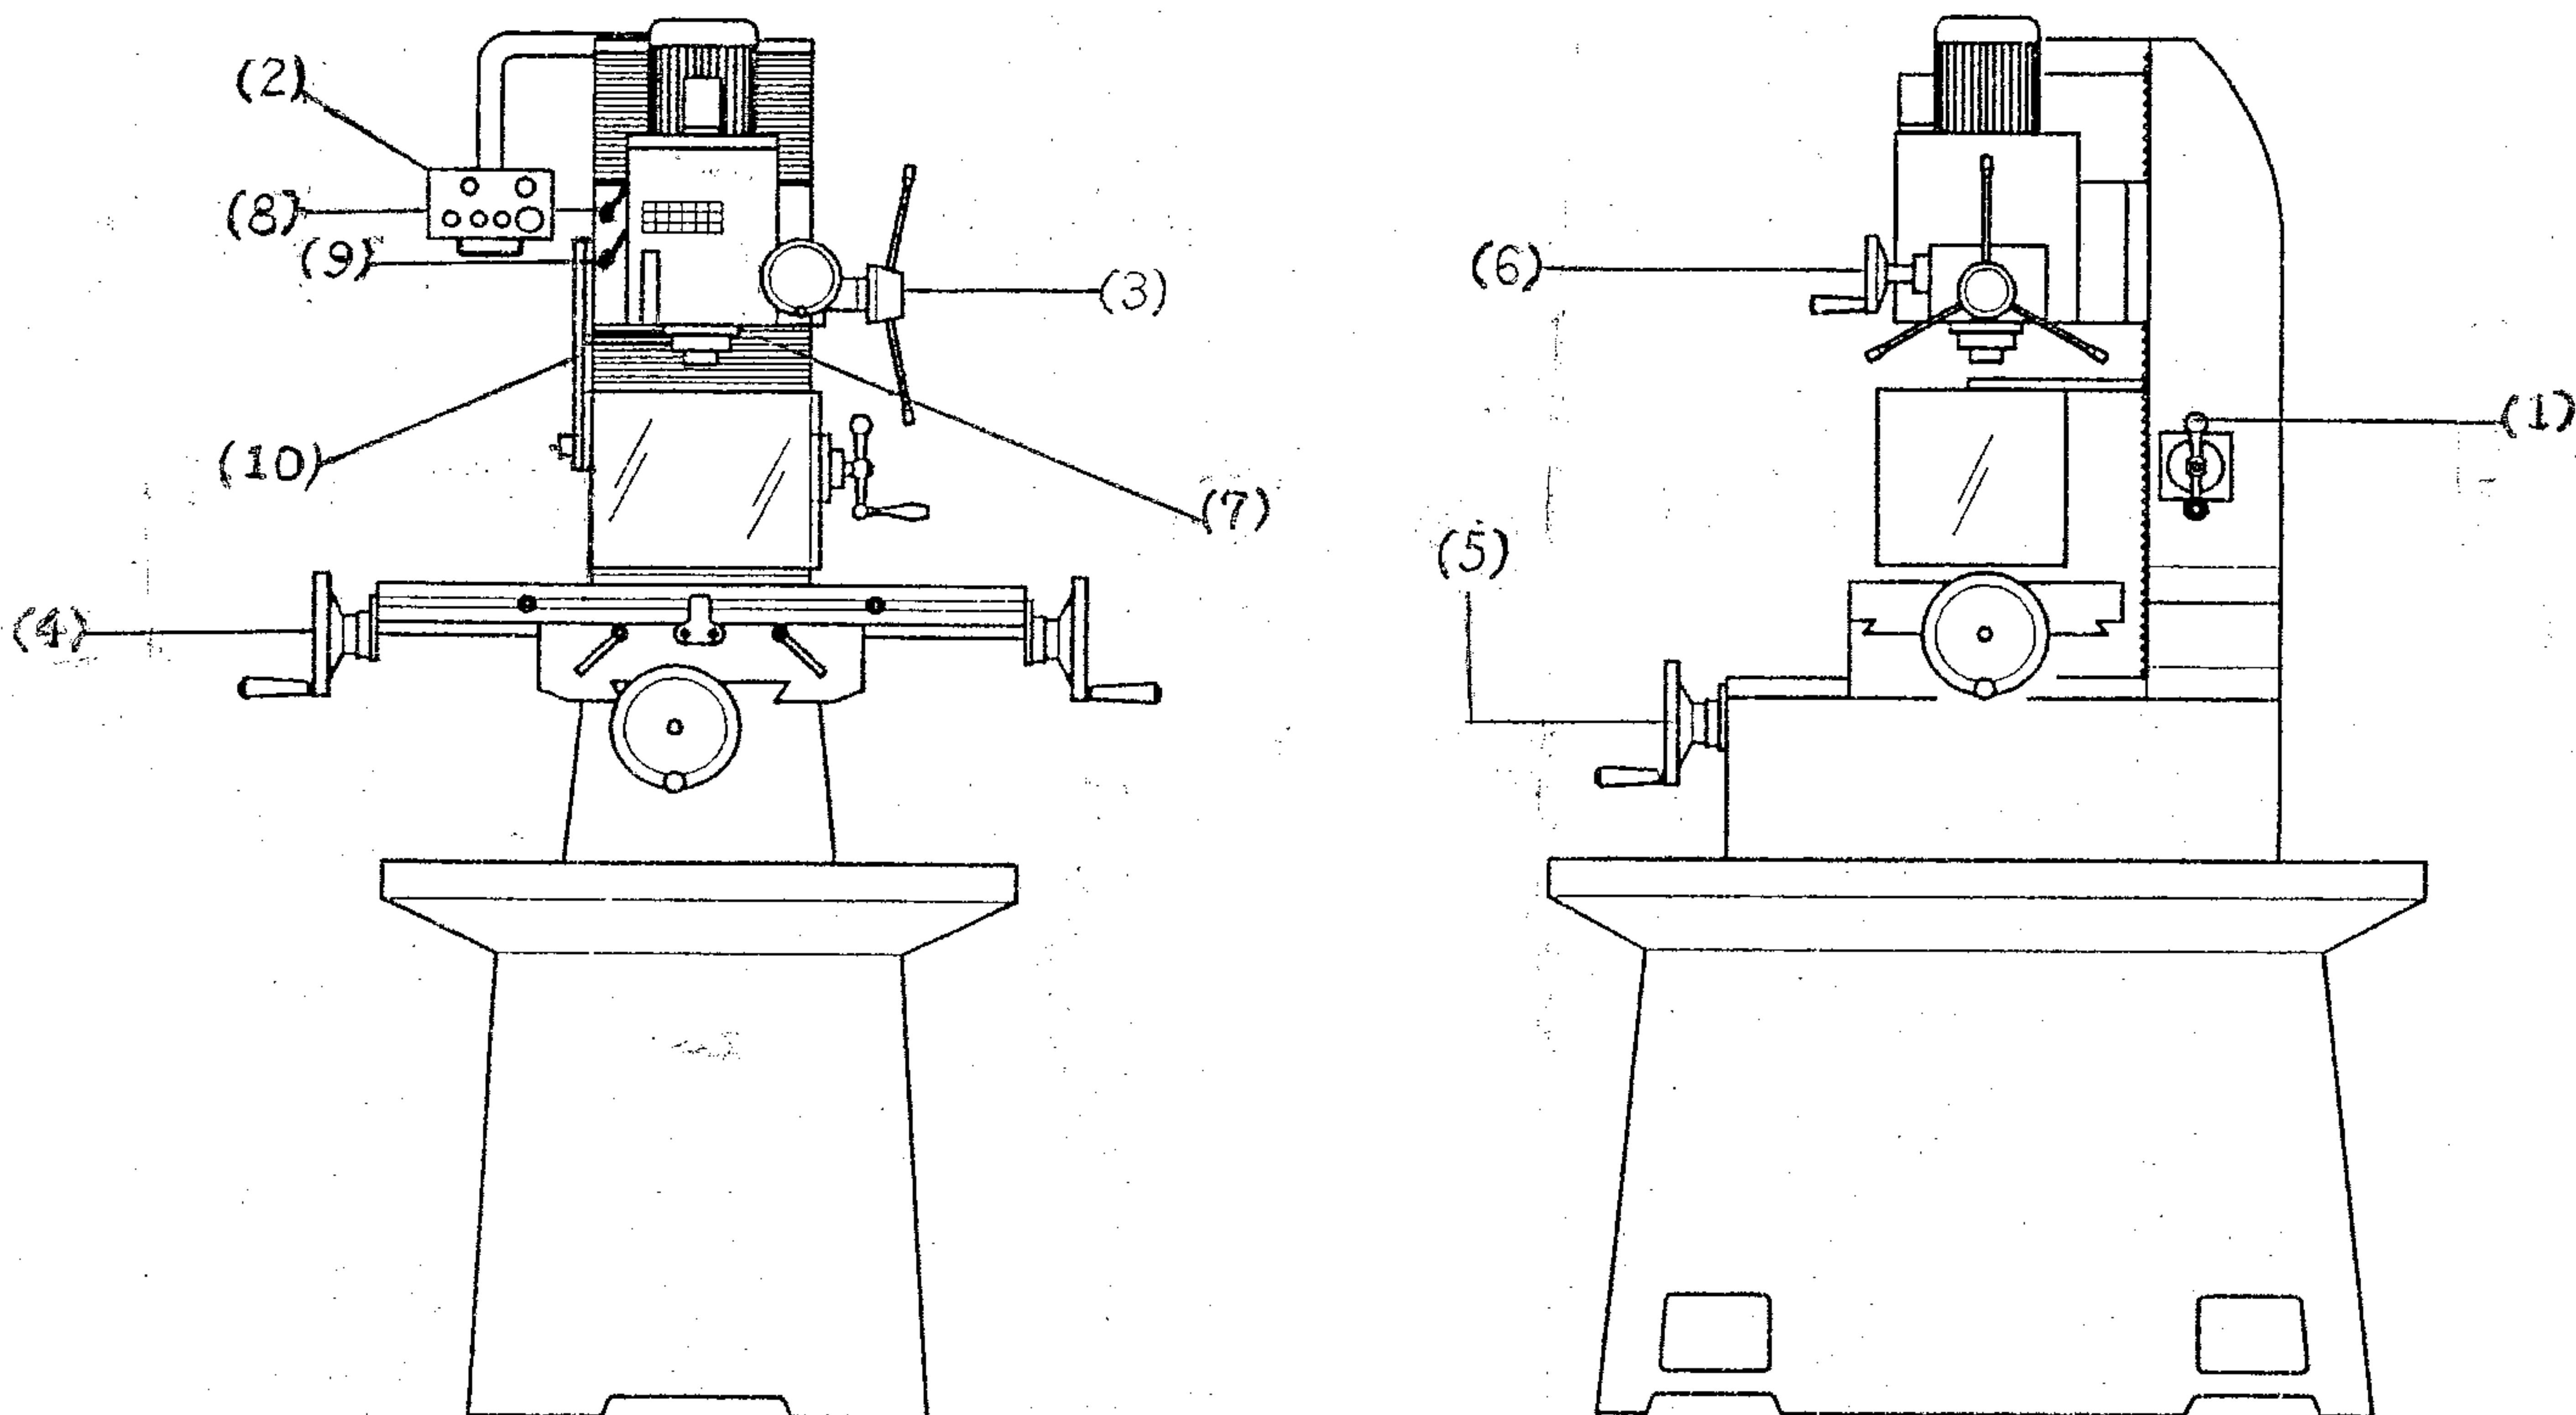

FIG 2
- (1) THE MACHINE HAS BEEN COATED WITH A HEAVY GREASE TO PROTECT IT IN SHIPPING. THIS COATING SHOULD BE COMPLETELY REMOVED BEFORE OPERATING THE MACHINE. COMMERCIAL DEGREASER, KEROSENE OR SIMILAR SOLVENT MAY BE USED TO REMOVE THE GREASE FROM THE MACHINE, BUT AVOID GETTING SOLVENT ON BELTS OR OTHER RUBBER PARTS.
- (2) AFTER CLEANING, COAT ALL BRIGHT WORK WITH A LIGHT LUBRICANT. LUBRICATED ALL POINTS AS FIG.2.
- (3) LUBRICATING POINTS AS ARROWS INDICATED.
USE OF MAIN MACHINE PARTS (SEE FIG.2)